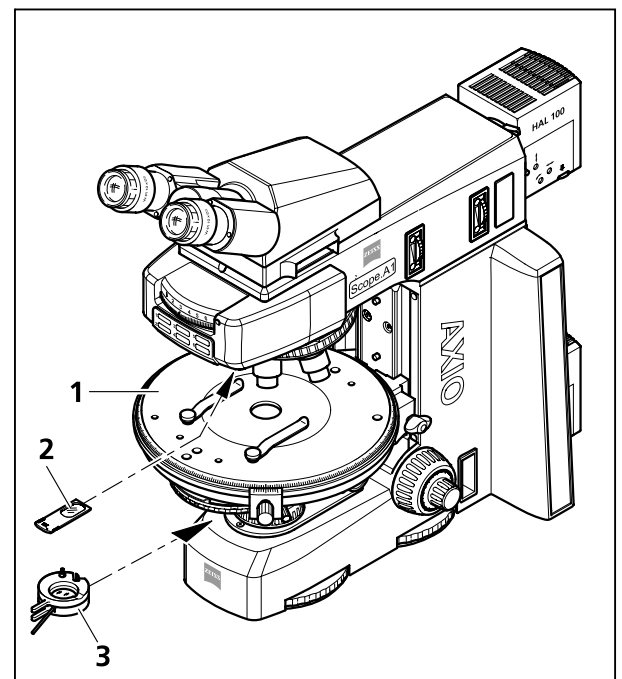

Fig. 4-7 Components for transmitted light polarization
(2) Instrumentation
(3) Adjusting the microscope
- Adjust the microscope as described in chapter 4.1.1 (3) for transmitted light/bright-field according to KÖHLER.
- Center the rotary stage Pol (Fig. 4-7/1).
- Swing the polarizer (Fig. 4-7/3) into the beam path and position it to 0° if you are using a rotatable polarizer.
- Put analyzer slider (Fig. 4-7/2) into the slit for the compensator or swing analyzer module in on the reflector turret/slider. Because of the crossed polarizers the field of view now appears dark.
- Rotary stage (Fig. 4-7/1)
- Adjust the microscope as described in chapter 4.1.1 (3) for transmitted light/bright-field. Make sure the eye distance is adjusted correctly on the binocular tube (see chapter 3.5.1).
- Swing the polarizer (Fig. 4-7/3) in the beam path and position it to 0° if you are using a rotatable polarizer.
- Swing the analyzer module on the reflector turret in (Fig. 4-7/2) (or slide the analyzer slider into the intermediate plate). Because of the crossed polarizers the field of view now appears dark.